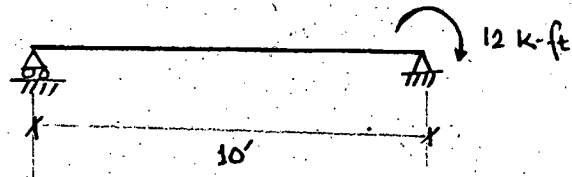

Figure 5
6. Determine the equation of the elastic curve for the beam shown in Figure 5. Also calculate the value of the deflection at mid-span. (14)